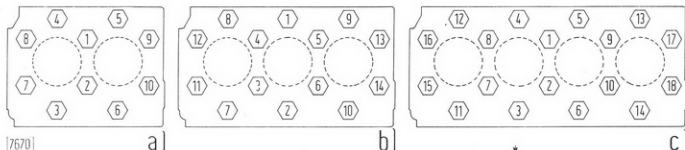

Fig. 11 - Cylinder Head Tightening Sequence
- Fit the gasket (self-adhesive) with the mark **ALTO** see d, Fig. 11) facing toward the cylinder head.
- Position the cylinder head and tighten the retaining screws according to the sequence given in Fig. 11.